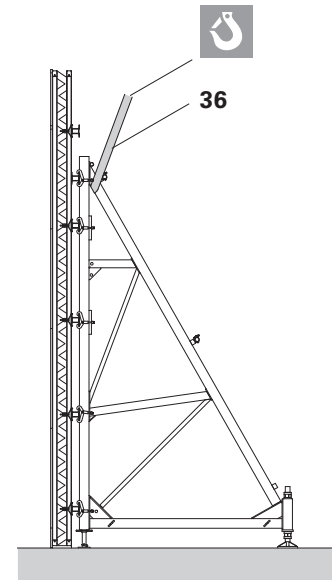

Fig. C2.02
Wrap textile strap (36) around the Brace Frame and attach to the crane. (Fig. C2.02)